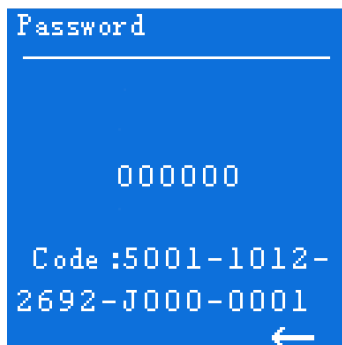

Figure4-16 Password input page
In the Settings management page, select "Permission" option to enter the password entry page first, as shown in Figure4-16.
2. The way for obtain the trial period password: After the service provider agrees, report the series number on the password input page (as shown in Figure4-16), then you can obtain the corresponding passwords.